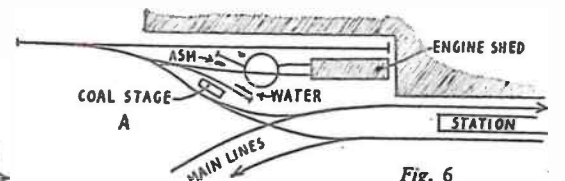

Fig. 6
In Fig. 6 is shown an alternative version of Fig. 2, in which the shed is approached over the turntable instead of directly, and further spectacular interest is achieved by the curving away of the main running roads which leaves ample space at (A) for storage roads, coal sidings, and carriage sidings. Fig. 7 gives an idea of the absolute minimum track layout for the very simplest loco depot, where it will be seen that only a turntable and unsheltered loco storage road is provided at (X).